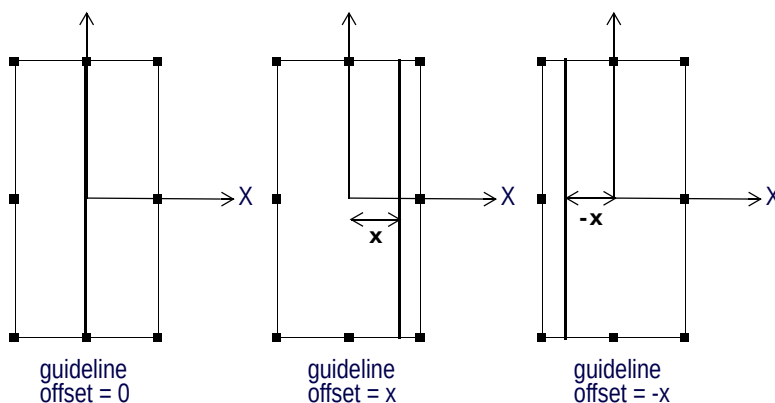

Figure 346 Point Finder — Guideline Offset
- See Figure 346 for an illustration of positive and negative **Offset** values.